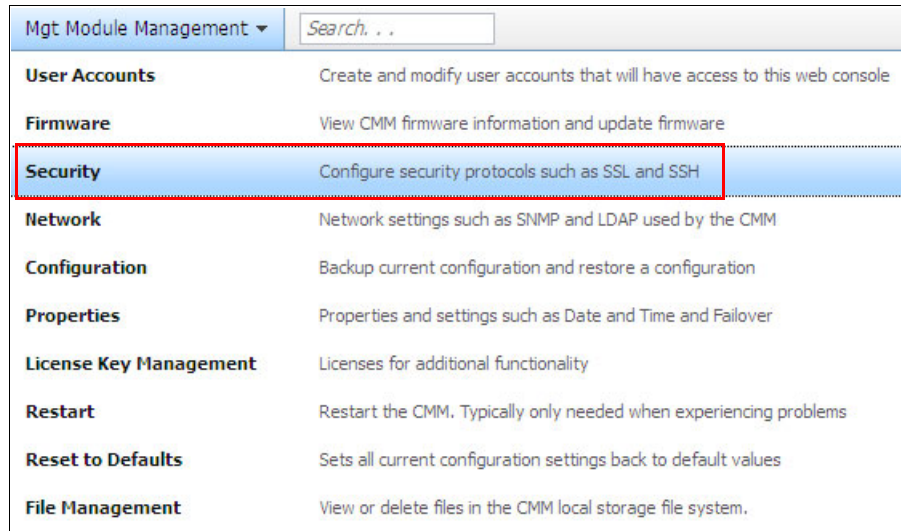

Figure 4-29 Mgt Module Management: Security
1. In the CMM web interface, select **Security** from the **Mgt Module Management** menu, as shown in Figure 4-29.